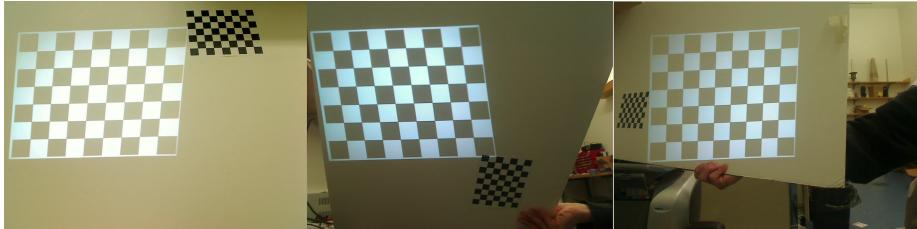

Figure 3: Examples of calibration images.
8. Start GUVCView. Uncheck Auto Focus. Manually change focus to desired distance. Capture about 10-15 images while holding the cardboard at different angles and distances from the camera. Make sure that both the printed and projected grid patterns are visible. Figure 3 shows a few examples.